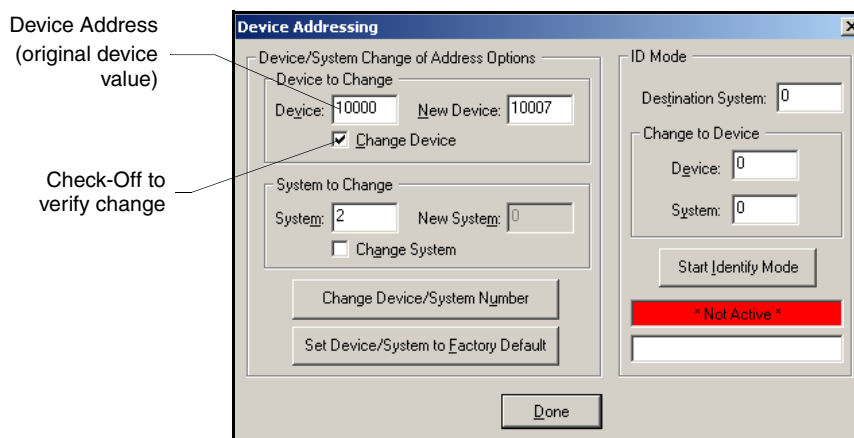

FIG. 19 Device Addressing dialog (changing the device value)
1. Access the Device Addressing dialog (FIG. 19) by either one of these two methods:
1. Access the Device Addressing dialog (FIG. 19 on page 23) by either one of these two methods: